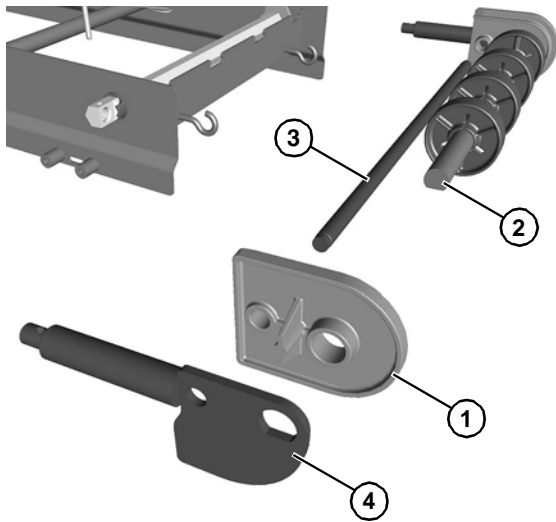

Figure 71
3. Install the tracking plate (**Figure 71, item 1**) to each side onto idler shaft (**Figure 71, item 2**) and pinch guard shaft (**Figure 71, item 3**).
4. Install the shaft assembly (**Figure 71, item 4**).